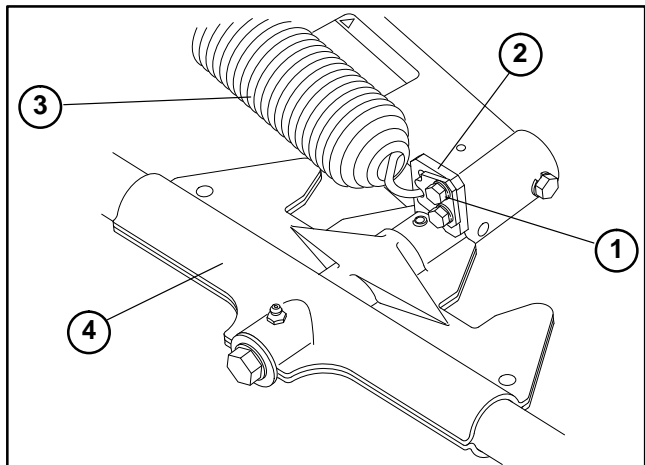

Figure 16
5. Remove capscrews, lock washers, and lift tab securing the spring to the carrier frame. Remove spring from the carrier frame (Fig. 16).
5. Secure counterbalance spring and lift tab to the carrier frame with the capscrews and lock washers (Fig. 16).